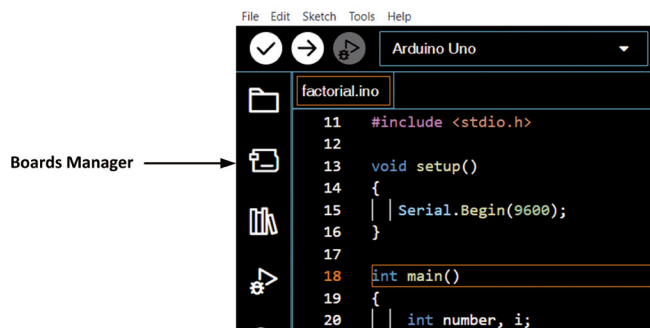

Figure 2.2: Open the Boards manager.
- Click to Open the **Boards Manager** at the top left of the screen (Figure 2.2).